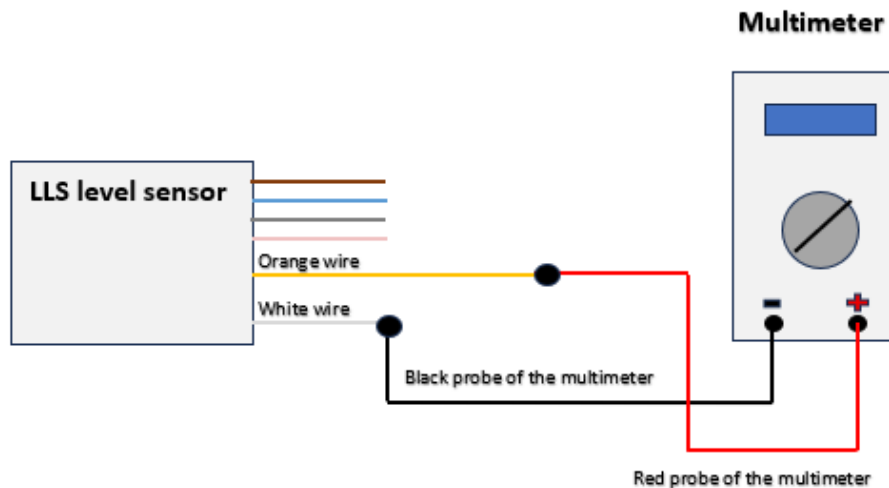

Fig. 4 Connection Diagram
2. Assemble the connection circuit according to «Fig.4 Connection Diagram»